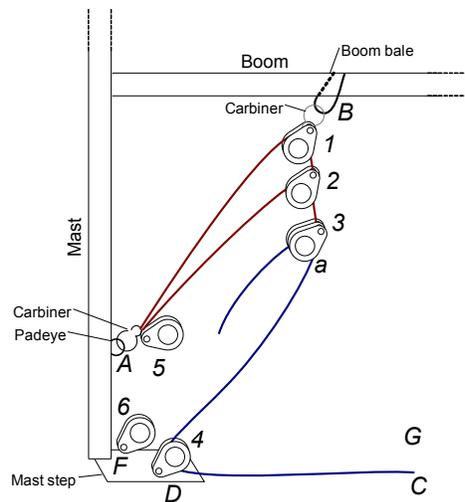

Figure 5. Rigging setup showing through step 15. The first and second stages are complete.
- 15) Attach a single block (5) either to the mast step (at E) or the padeye on the mast (A). I used the padeye. If using a carabiner to attach the loop on the cascade line to the padeye (from step 8), attach the block to the carabiner. At this point, your vang should look like Figure 5.